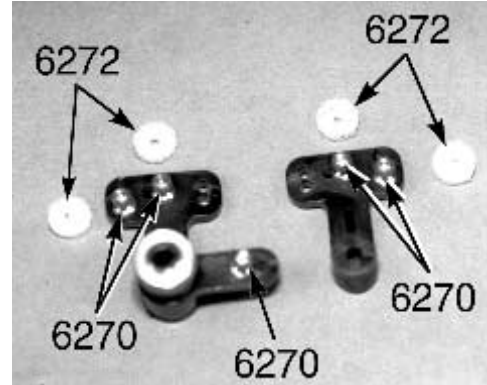

Fig. 32
□ **Figs. 32 & 33** Now we need to go back to bag #6-14 and remove five #6270 short steel ball ends and four #6272 foam ball end dust covers. Layout the left servo saver arm assembly and the right bellcrank as shown in fig. 32. Now we need to thread the five ball ends into the servo saver and bellcrank per the photo. After all the ball ends are installed you can then push the #6272 foam dust covers over the front four ball ends. You will not be installing a foam dust cover over the servo tie rod ball end. **Note:** You do not need to install nuts on the bottom of these five ball ends.